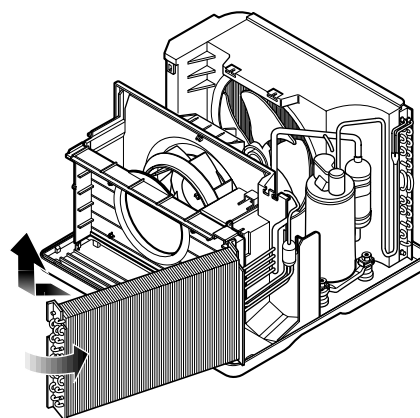

Figure 20
9. Move the evaporator forward and pulling it upward slightly. (See Figure 20)